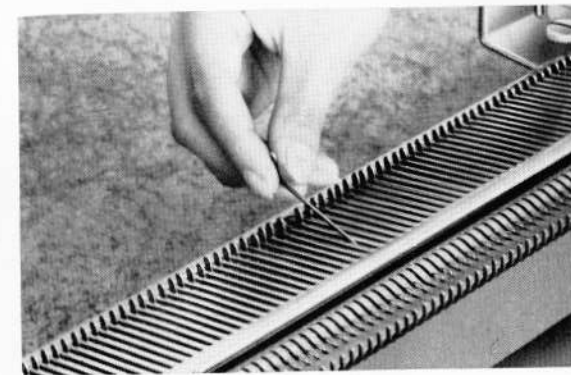

Fig 58
6. Grasp the needle as shown in Fig. 58 and left it out in an upward curving direction.
7. Replace with a new needle by holding it as shown in Fig. 58, (with latch open) and with a curving motion push it into the needle bed slot. Make sure that the needle hook is above the surface of the bed.